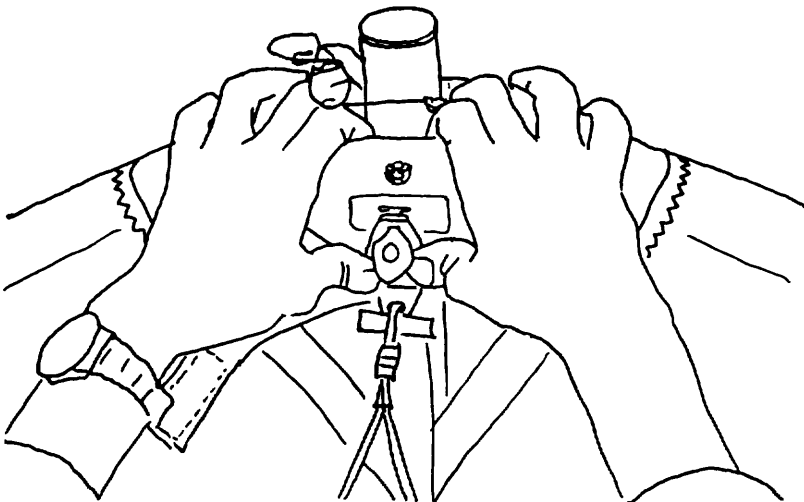

Fig 28
16) Attach the bottom front wires at the nose using the following procedure: First, be sure that the glider is sitting as level as possible, that neither wing tip is resting hard on the ground, and that the control bar base is pulled all the way forward so as to tension the bottom rear wires and put the rear of the keel on the ground. Lift the keyhole tang to the head of the bolt on the bottom of the keel. Press upward on the tang while pulling down on the nose of the glider (Fig 28), and the tang will slide over the bolt and pop into place. Note: Do not try to use the "T" handle on the tang for installing the tang, it is used only for removing the tang. Press instead on the tang itself on either side of the hole. Attach the rubber safety.